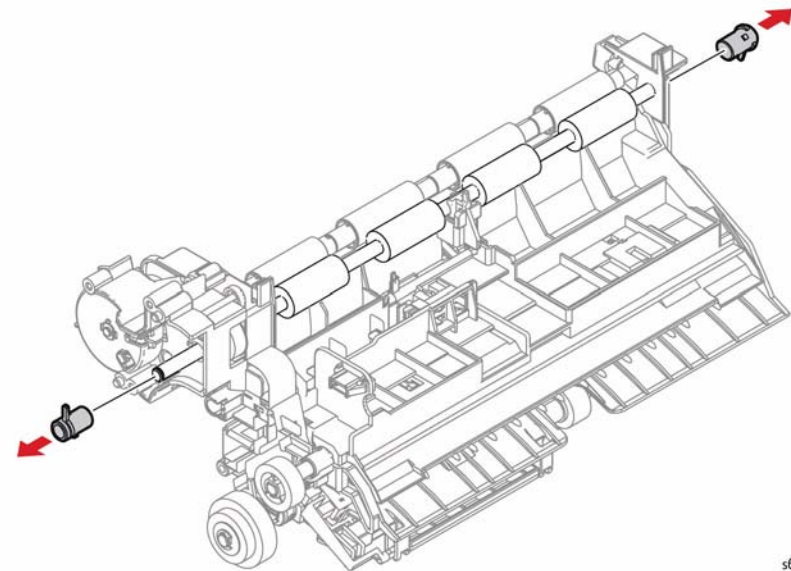

Figure 1 Remove the Registration Bearings
2. Refer to Figure 1 to remove the Right and Left Registration Bearings by unlocking and rotating each one, then removing them.